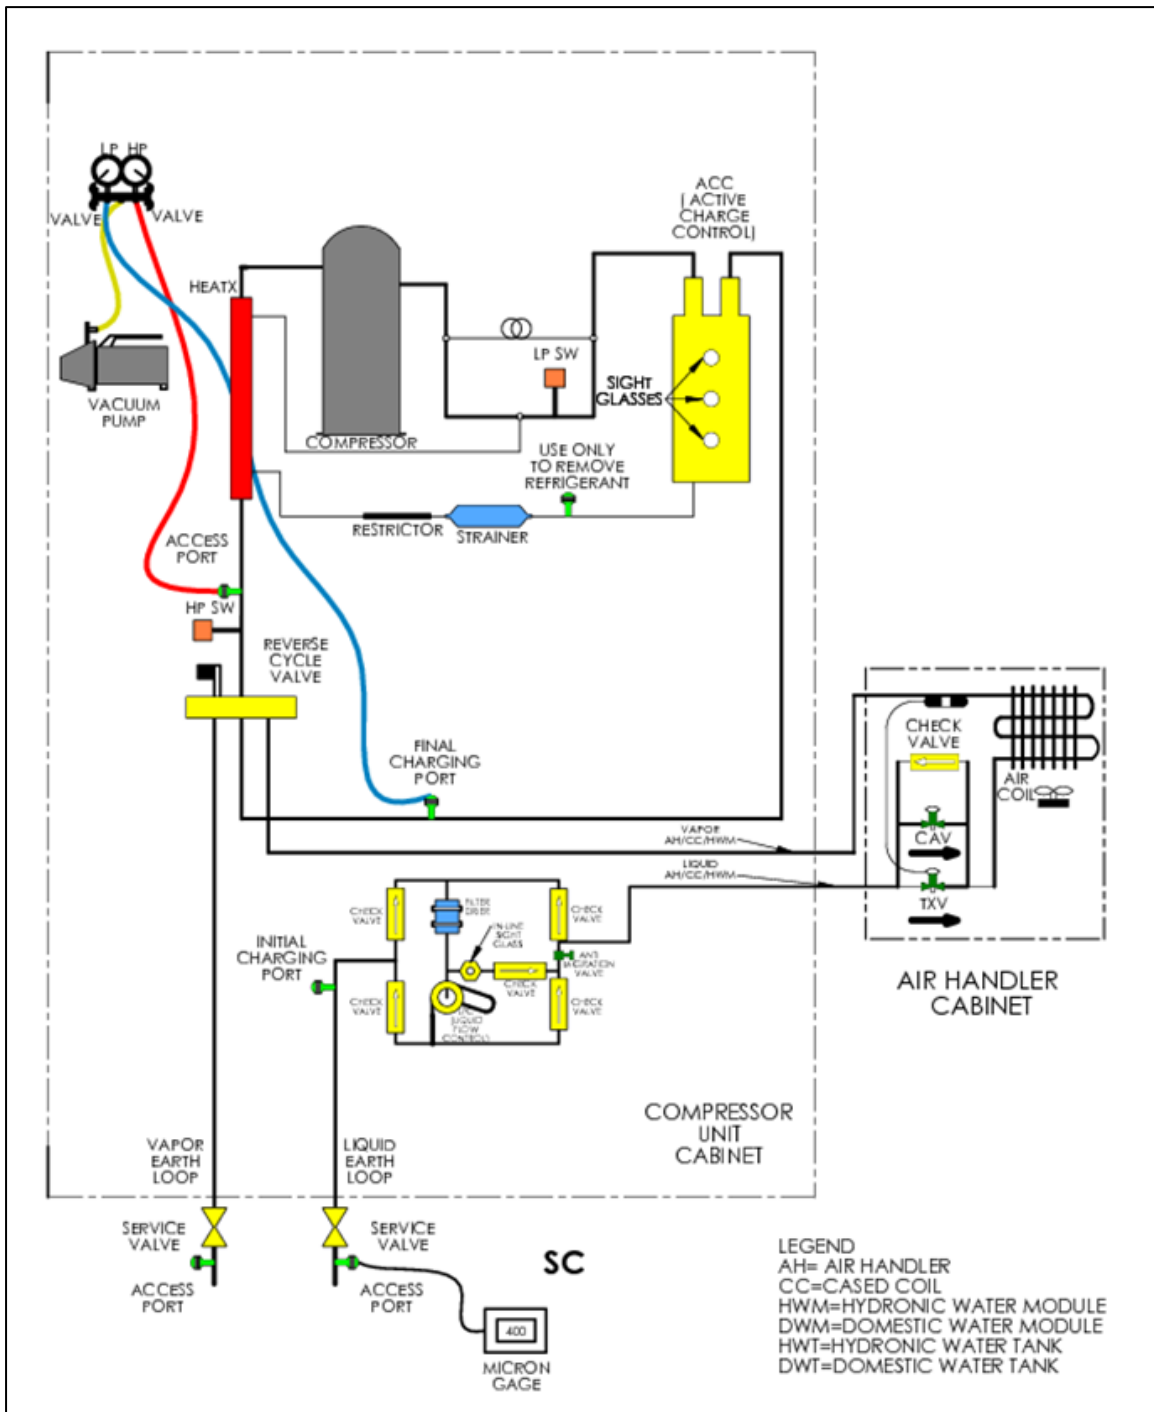

Figure 26. Evacuation of SC System
Refer to Figure 26 and the following procedure:
2. After venting the pressurized system, connect the Gage Block and Hoses as shown in Figure 26. LP and HP valves are fully open. Both Service Valves are fully opened.
3. As illustrated in Figure 26, connect a good quality Digital Micron Gage to the Liquid Service Valve Access Port with an Isolation Hose/Valve. Connect a quality Vacuum Pump (at least 6 CFM capacity) to the Gage Block.